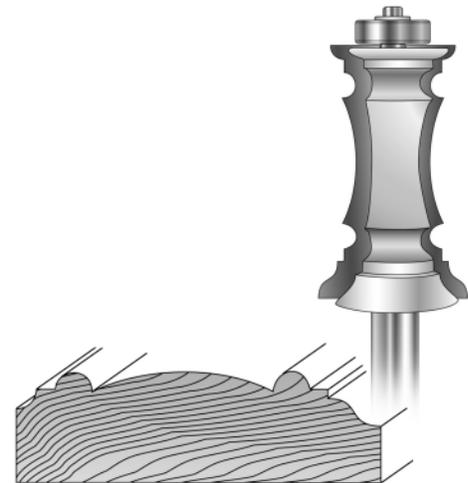

Figure 30A
3. Rout the profile on the top face of your stock using the (# 8781) Mitered Molding router bit. (**Figure 30A**) Because you will be removing a large amount of wood, complete this step by making the cut in multiple passes by adjusting the router bit cutting depth between each pass. The final pass should leave the ball bearing guide on the bottom of the router bit flush with your router table fence.